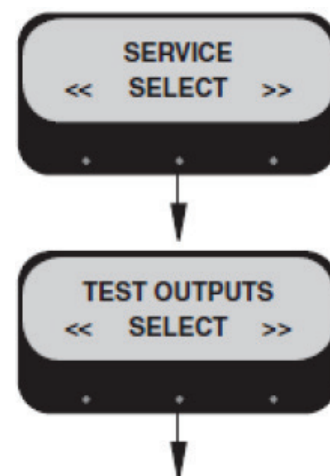

FIG. 33-3 Service Menus
4. Access "Service" menu and enter "Test Outputs" menu. (Fig. 33-3)